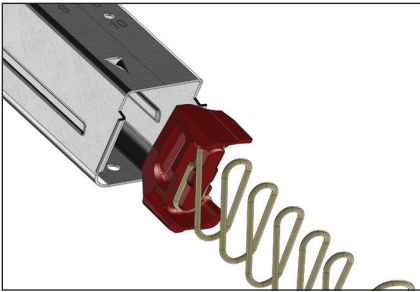

Figure 33
1. Snap the magazine follower onto the magazine spring with the end of the spring positioned on the left of the follower (See Figure 33).